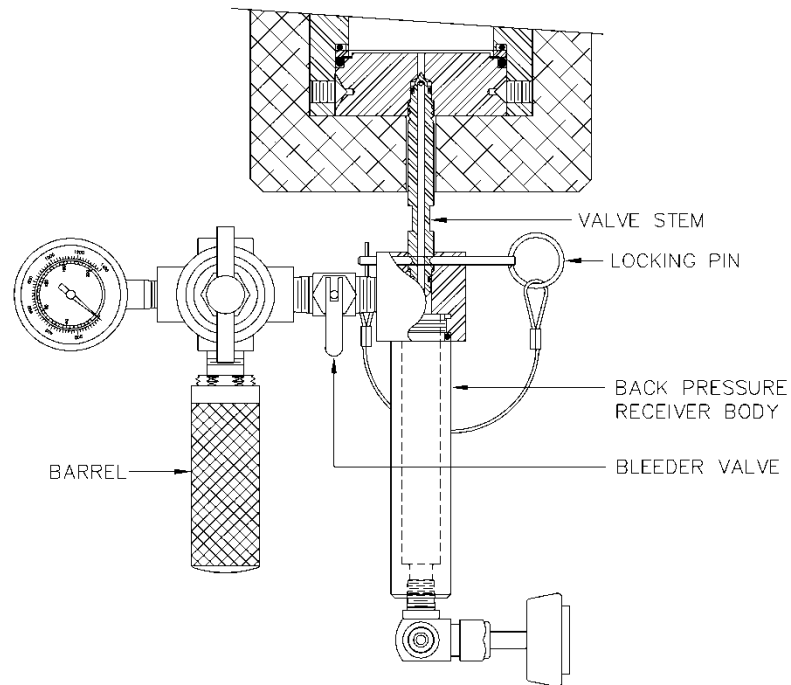

Figure 5-3 CO2 Backpressure Unit
6. If applicable, install the correct backpressure receiver on the bottom stem (filter paper end) to capture the expected filtrate volume. One of four backpressure receivers can be used. Refer to Figure 5-3.